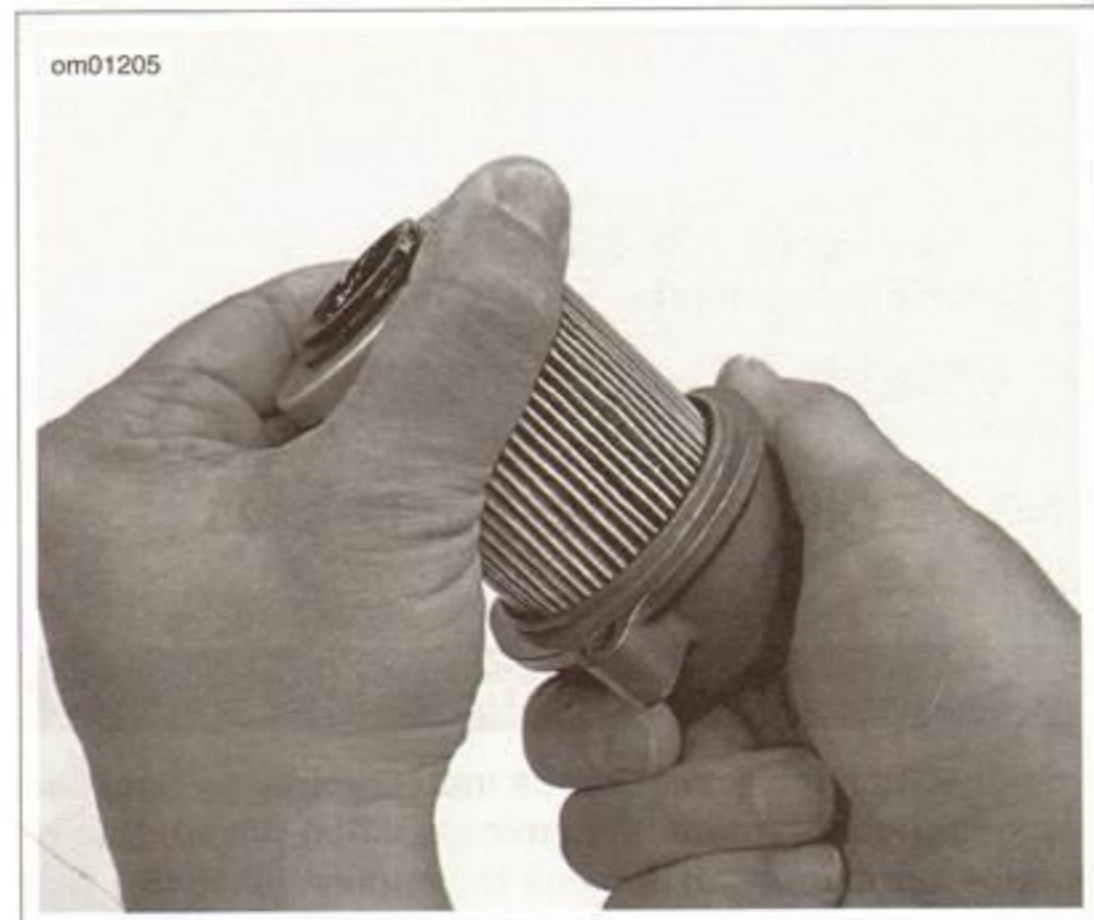

Figure 1-5. Oil Filter Cartridge: Buell 1125 Models
- b. See Figure 1-5. Push new oil filter cartridge into cover until properly seated.